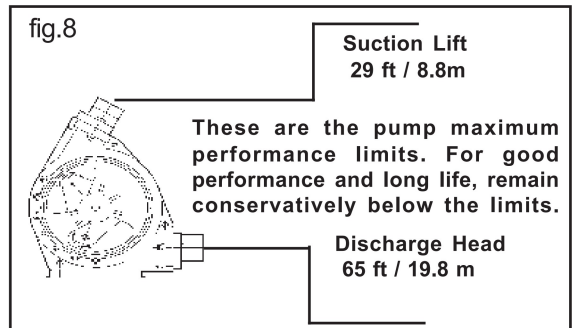

fig.8
- Install the pump in accordance with the performance specification. fig.8